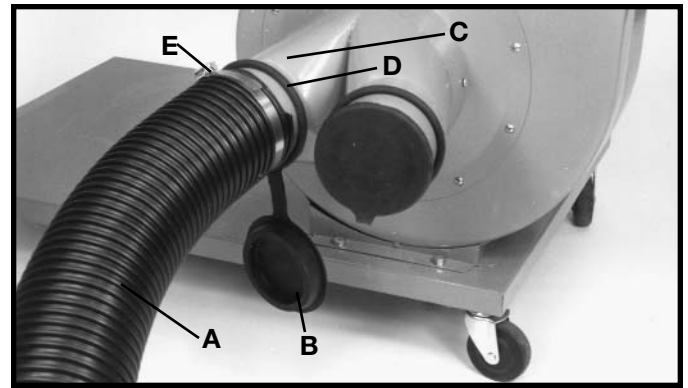

Fig. 23
1. To assemble the intake hose (A) Fig. 23, to the blower assembly, pull the dust cap (B) from the dust intake port (C) and slide the dust cap collar (D) farther onto the dust intake port (C) as shown. **IMPORTANT: DO NOT REMOVE THE INTAKE CAP FROM THE INTAKE PORT.**
2. Place hose clamp (E) Fig. 23, on one end of flexible hose (A) and assemble the hose to dust intake port (C). Tighten hose clamp (E).